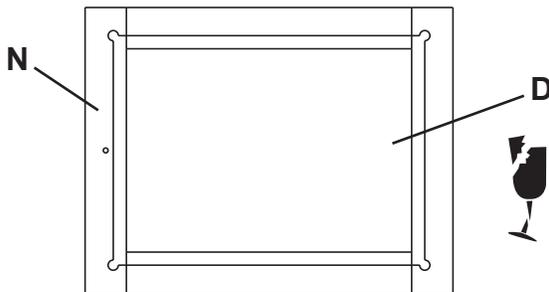

Fig. 3
If you would rather have a Wood Door Panel (D) instead of Glass (M), use a Phillips Screwdriver to remove the six screws in the Hinge (Y) that is attached to the Case (C). (Leave the Hinge attached to the Door Frame.) Lay the Door Frame (N) face down on a clean, protected surface. Gently remove the Retainer (X) by sliding it away from the Door Frame (N). Carefully remove the Glass Pane (M) and replace it with the Wood Door Panel (D). The panel has shallow notches around the four edges on its back side. Place the wood panel into the door frame so the notches face the back of the frame. See Figure 3. Replace the Retainer (X) as shown in Figure 3a.